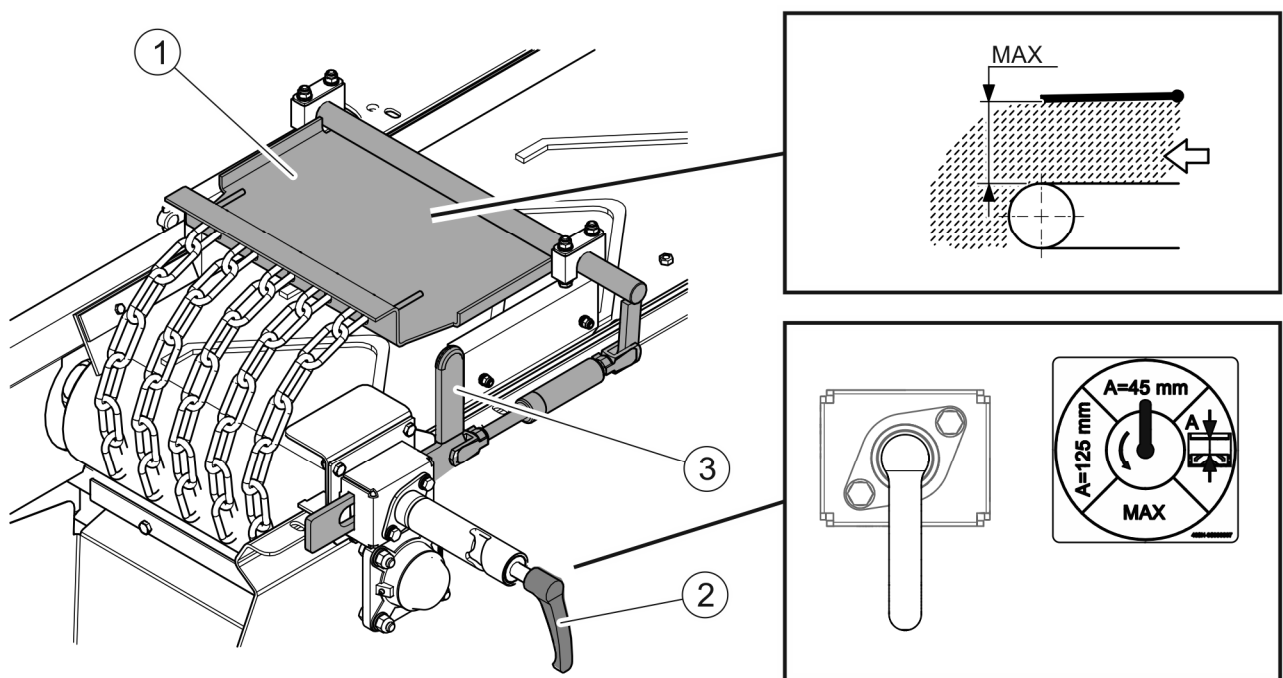

FIGURE 4.25 Setting the belt conveyor barrier for unloading
- set the belt conveyor barrier to maximally open position (FIGURE 4.25),
(1) - spreading mechanism; (2) - clamp bolt; (3) - grip; (4) - raised disc" indicator
To set the barrier (1) for unloading (FIGURE 4.25) turn and pull the pin (2). The barrier is set to maximally open position (FIGURE 4.25) only when material is being unloaded from the tank.